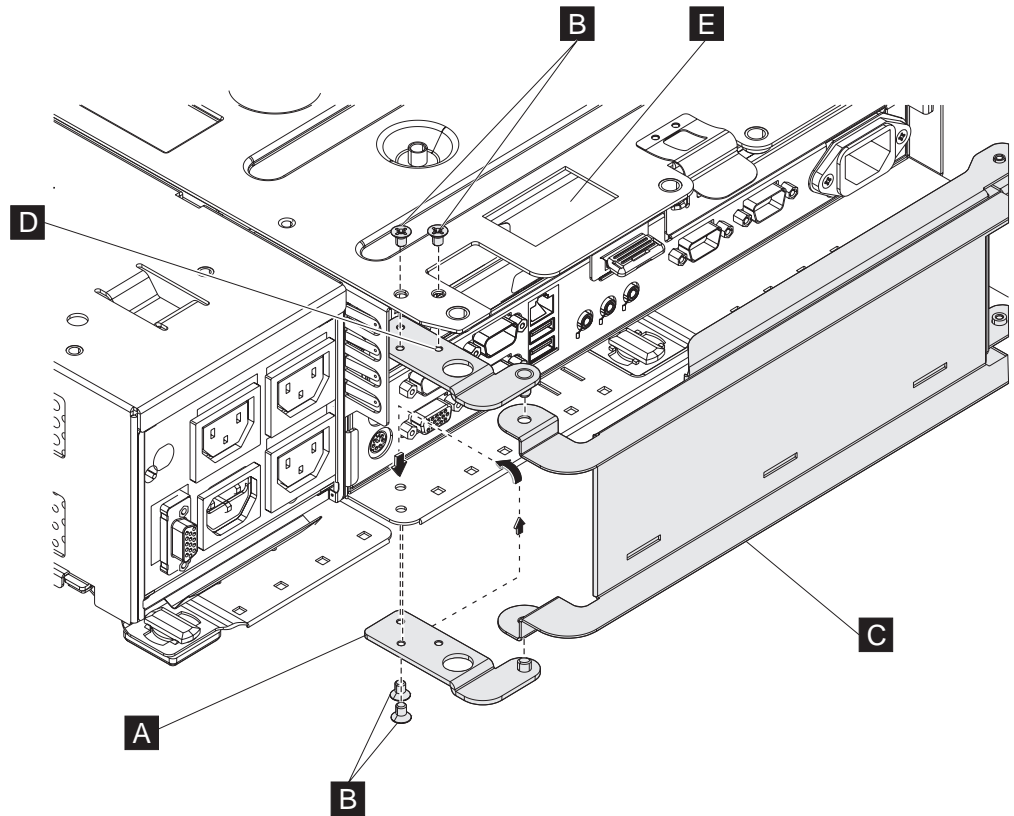

Figure 80. Installing the cable guide arm assembly
1. Attach the bottom bracket ( **A** in Figure 80) to the bottom of the system tray using the two screws ( **B** ).
4. For each cable, insert the connector end into the system unit first, then route it through the opening in the top-rear of the unit frame ( **E** in Figure 80). You can close the Velcro loop around the cord at this time or later in the cable routing process.